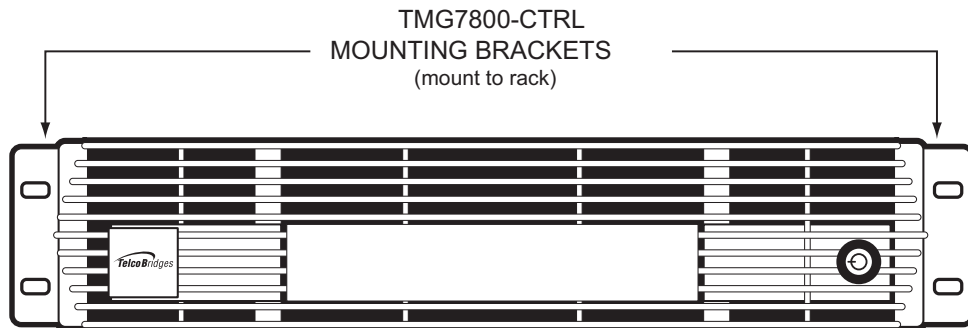
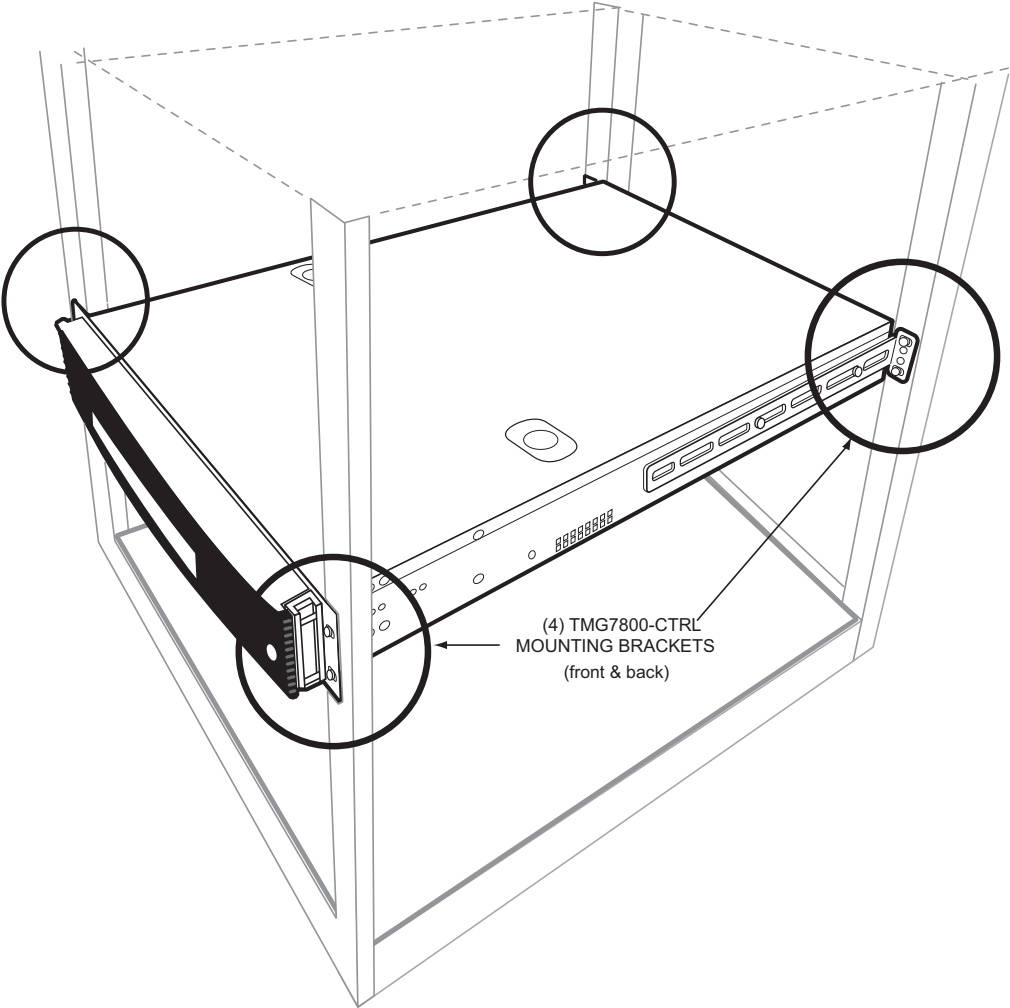

Figure 2.8 Front View of TMG7800-CTRL with Front Mounting Brackets
Figure 2.9 TMG7800-CTRL Installed in the Equipment Rack
3. Secure it in place using the screws provided with the bracket. See figure 2.8 on page 16 and figure 2.9 on page 17.